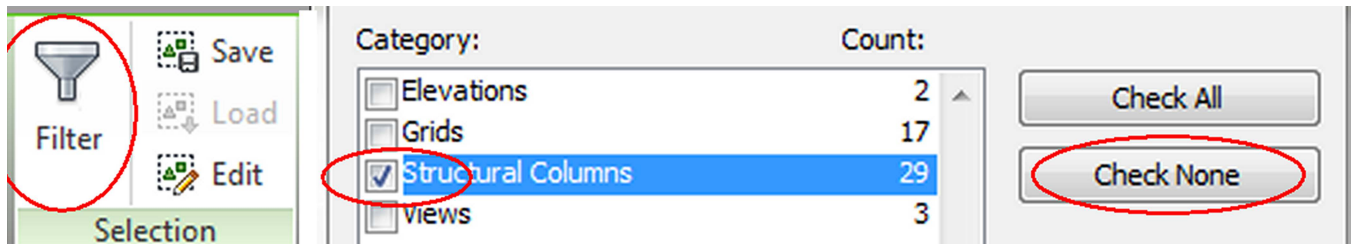

Fig. 2.5 – Filter for Columns
2. Click on Filter → Click Check None → Select Structural Columns (Fig. 2.5).